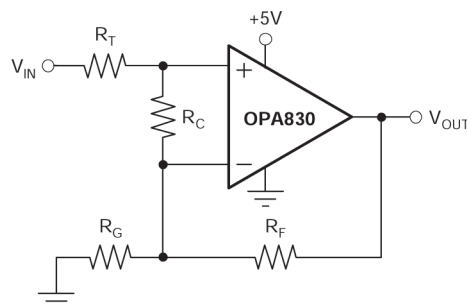

図 8-9. Compensated Noninverting Amplifier
Frequency response in a gain of +2 can be modified to achieve exceptional flatness simply by increasing the noise gain to 3. One method, without affecting the +2 signal gain, is to add a 2.55kΩ resistor across the two inputs (see also Figure 8-9). A similar technique can be used to reduce peaking in unity-gain (voltage follower) applications. For example, by using a 750Ω feedback resistor along with a 750Ω resistor across the two op amp inputs, the voltage follower response is similar to the gain of +2 response of Figure 8-2. Further reducing the value of the resistor across the op amp inputs further dampens the frequency response due to increased noise gain. The OPA830 exhibits minimal bandwidth reduction going to single-supply (5V) operation as compared with ±5V. This minimal reduction is because the internal bias control circuitry retains nearly constant quiescent current as the total supply voltage between the supply pins changes.
The criterion for setting this  $R_S$  resistor is a maximum bandwidth, flat frequency response at the load. For a gain of +2, the frequency response at the output pin is already slightly peaked without the capacitive load, requiring relatively high values of  $R_S$  to flatten the response at the load. Increasing the noise gain also reduces the peaking (see Figure 8-9).
図 8-9 shows a noninverting amplifier that reduces peaking at low gains. Resistor  $R_C$  compensates the OPA830 to have greater noise gain (NG), which reduces the ac response peaking (typically 5dB at  $G = +1$  without  $R_C$ ) without changing the dc gain.  $V_{IN}$  must be a low impedance source, such as an op amp. The resistor values are low to reduce noise. Using both  $R_T$  and  $R_F$  helps minimize the impact of parasitic impedances.